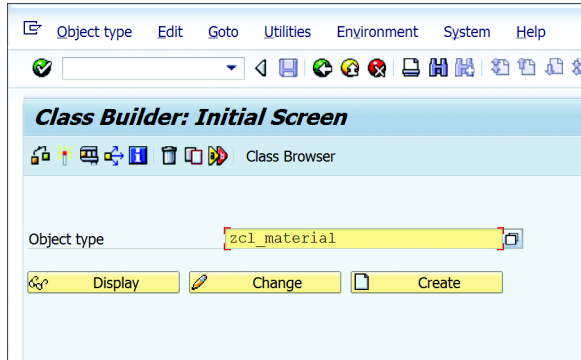

Figure 7.23 Class Builder: Initial Screen
2. In the `OBJECT TYPE` field, enter the name of the class you want to create and click the `CREATE` button. The name of the class should be in a customer namespace, starting with a Y or Z. We recommend starting the class name with the naming convention `ZCL_`; we'll discuss why shortly. Figure 7.23 shows the initial screen of the Class Builder.